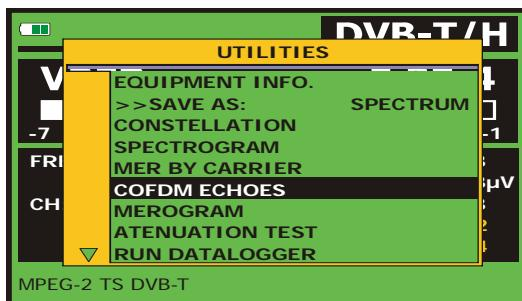

Figure 54.- UTILITIES Menu.
2. Select the option COFDM ECHOES (Figure 54.-).